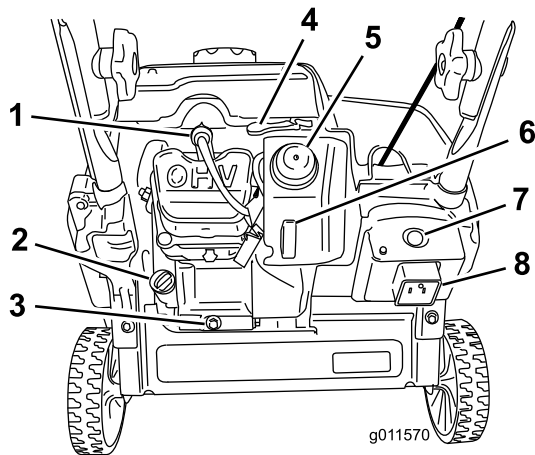

Figure 13
2. Clean around the oil fill cap (Figure 13).
3. Clean around the oil fill cap (Figure 13).